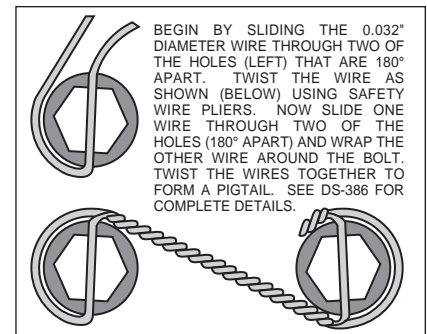

Figure 5. Safety Wire Diagram
- With the larger I.D. side of the rotor (4) facing away from the hat (3), bolt rotor (4) to hat (3) through the backside of the rotor using washers (5) and bolts (6). Using an alternating sequence, apply red *Loctite*® 271 to the threads and torque bolts to 155 **in-lb**. For an added measure of security, the bolts may be safety wired using standard 0.032 inch diameter stainless steel safety wire as shown in Figure 5. Please refer to Wilwood's data sheet DS-386 (available at [www.wilwood.com/Pdf/DataSheets/ds386.pdf](http://www.wilwood.com/Pdf/DataSheets/ds386.pdf)) for complete safety wire installation instructions.
- Slide the rotor registration adapter (18) onto the axle register on the axle flange with the smaller O.D. facing toward the rotor/hat (3). Align the correct hole pattern in the hat with the stud pattern on the axle flange. **NOTE:** Some OEM and aftermarket axles come with stud sizes larger than 0.50" diameter. Verify stud size and have a qualified machine shop drill the hats to the correct size, if necessary. Slide the hat/rotor assembly (3 and 4) over the wheel studs covering the bracket kit assembly (1) and against the axle flange face. Check to be sure the hat seats squarely against the hub. Install a couple of lug nuts (finger tighten) to keep the rotor/hat assembly in place while continuing with the installation.